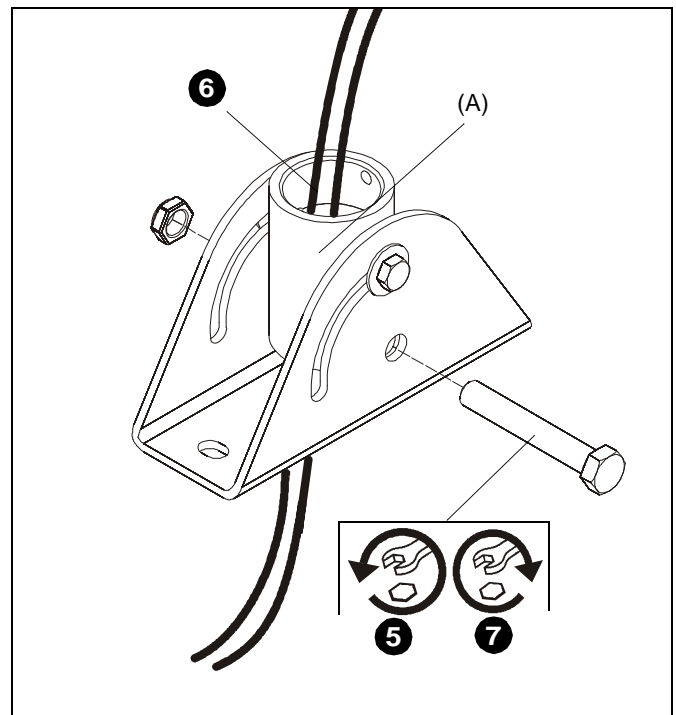

Figure 2
5. If necessary, remove hex head bolt running through pipe channel in order to allow cables to be routed through pipe. (See Figure 2)
6. Route cables through pipe as needed. (See Figure 2)
7. Reinstall hex head bolt and nut after cables have been properly routed. (See Figure 2)